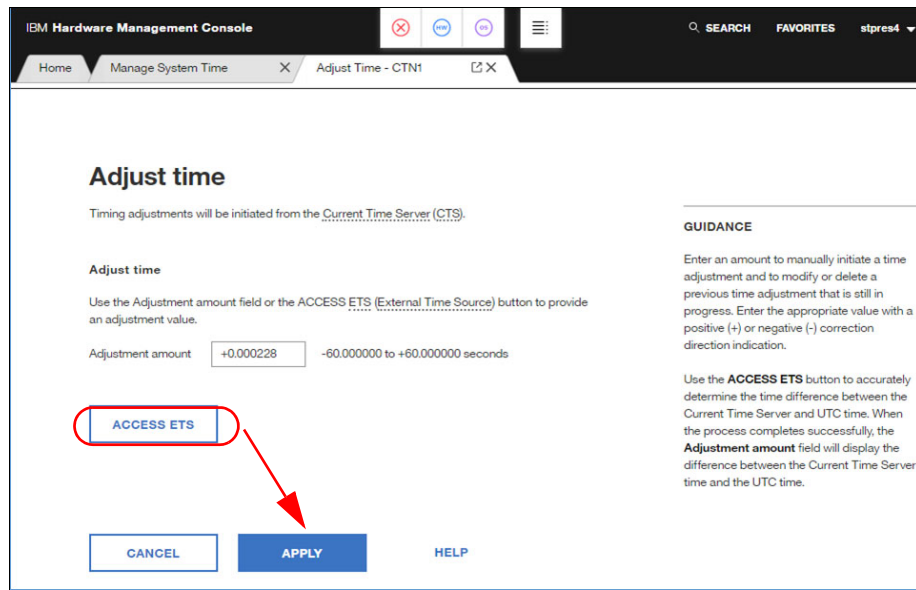

Figure 5-24 Applying the time adjustment
3. Click **APPLY** to adjust the CTN time to the ETS time (Figure 5-24 on page 124).